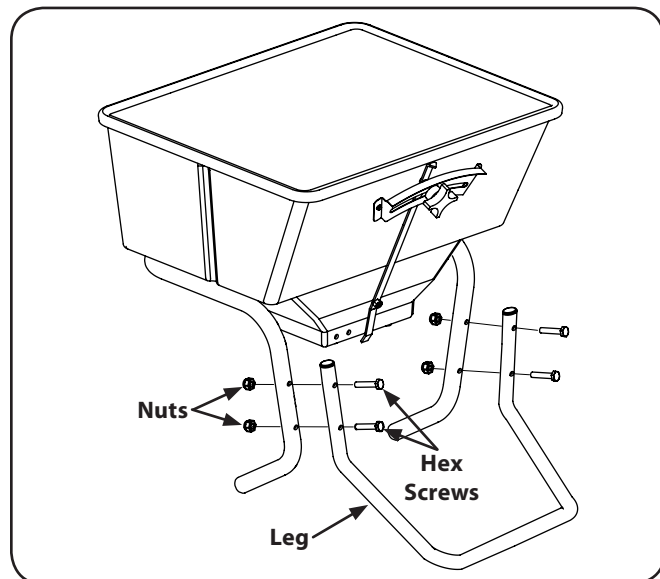

Figure 3-3
1. Install the leg to the hopper and frame assembly by fastening with four hex screws ($\frac{1}{4}$ -20 x 2) and four nuts ($\frac{1}{4}$ -20). See Fig. 3-3.